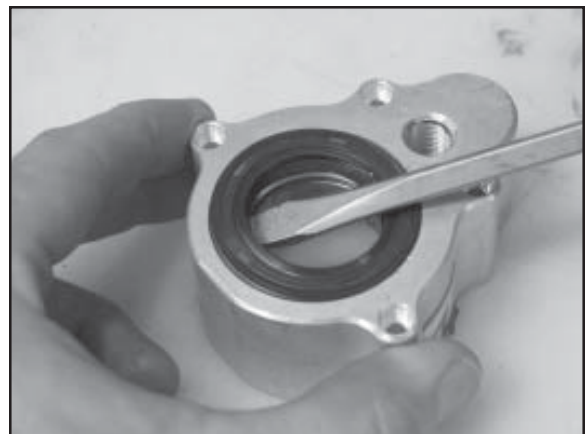

Figure 7
1. CAREFULLY remove both seals by prying the seal out using a flat head screwdriver, **Figure 7**.